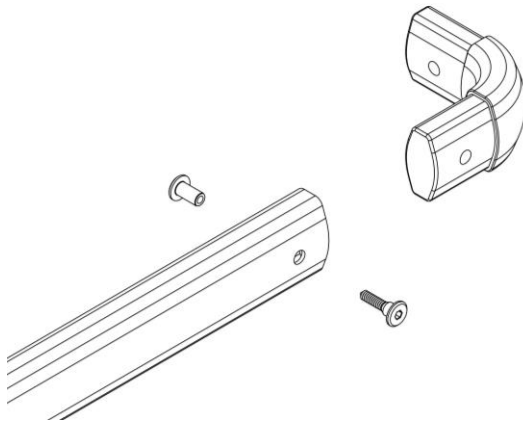

Fig. 23
8. Install the 90° corners in the newly cut ends of the tension bow side arms and bolt them in place (see fig. 23.) The corners should be pointing in toward the dump body at this point.